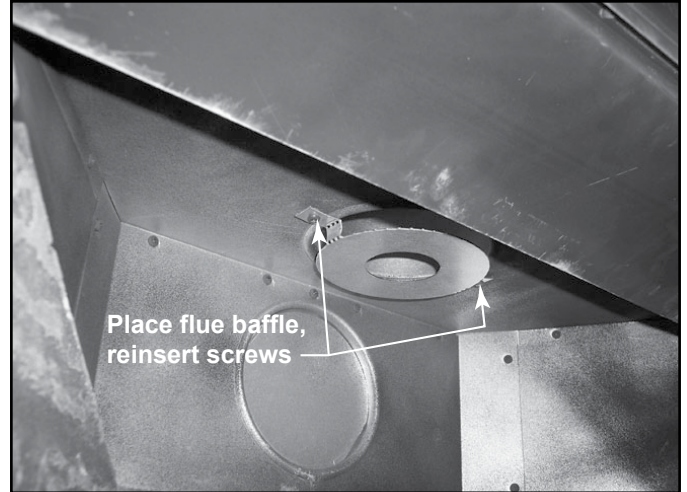

Figure 4.21 12-30 Foot Vertical Run
- The flue baffle will be turned to install below the level of the firebox top for 12-30 ft. vertical runs of vent. See Figure 4.21.